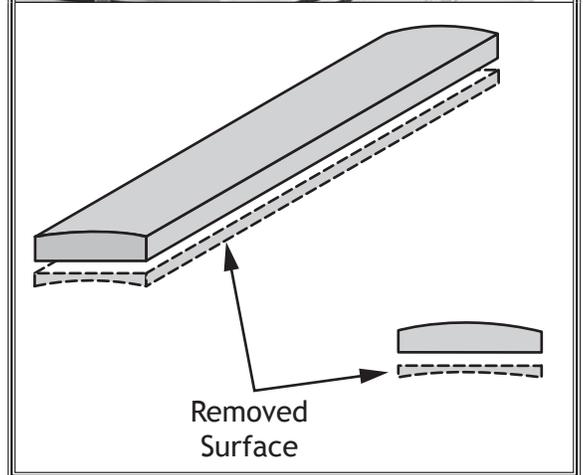

Figure 18. Example of a typical surface planing operation.
The purpose of surface planing (see **Figure 18**) on the jointer is to make one flat face on a piece of stock to prepare it for thickness planing on a planer.
5. Place workpiece firmly against fence and infeed table with concave side facing down, as shown in **Figure 18**.